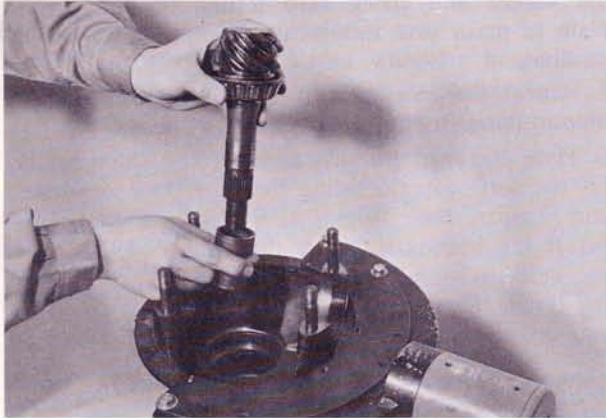

Fig. 9-15 Installing pinion and collapsible spacer
1. Position the pinion assembly in the carrier and install the collapsible spacer as shown in Fig. 9-15.